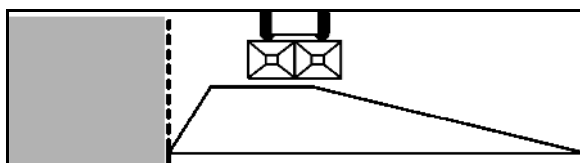

Fig. 47
1. Boundary spreading in accordance with fertiliser ordinance (Fig. 47):